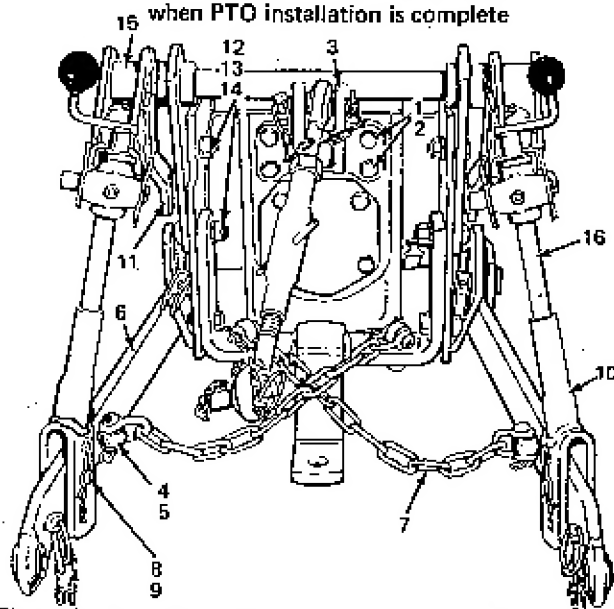

Figure 3. Three-Point Hitch Removal and Installation
D. THREE-POINT HITCH REMOVAL (FIGURE 3)